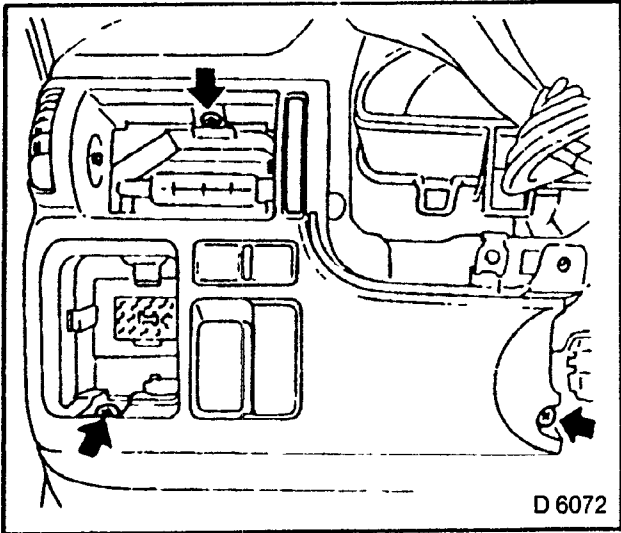

Fig 43
- 2. Insert retaining frame (Fig. 43 shows retaining frame for radio with central plug).